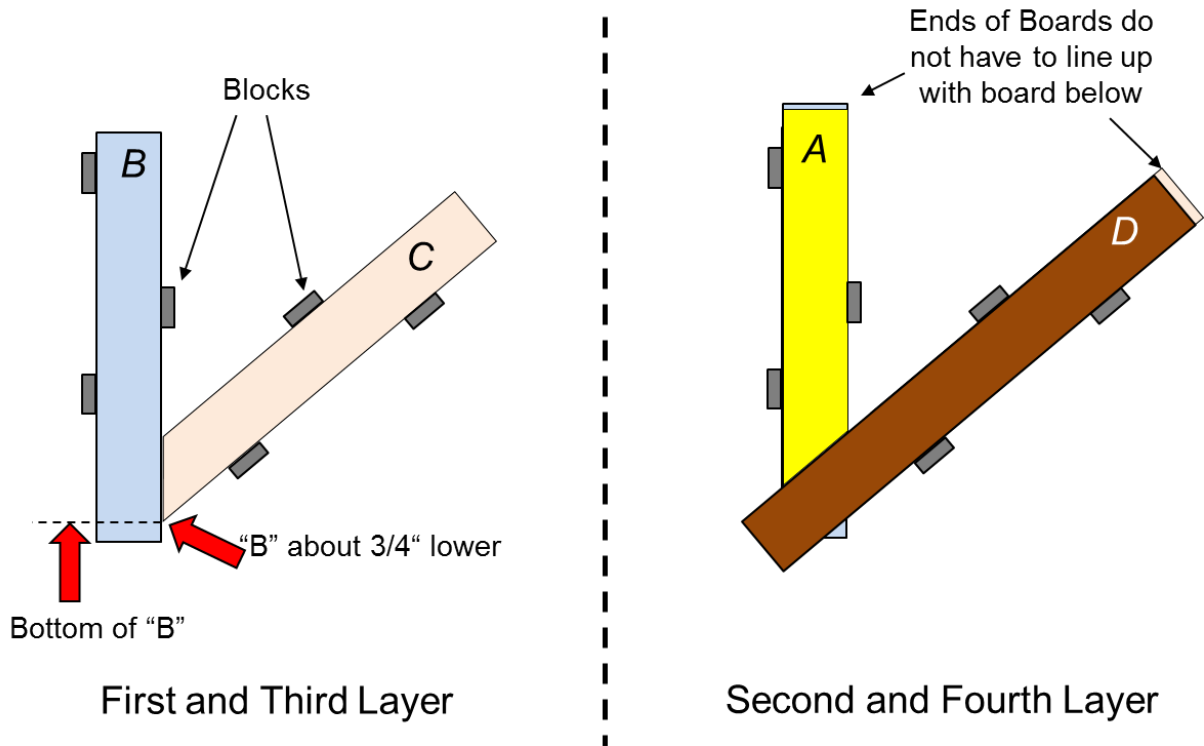

Figure 13: Vee Lamination Sequence
Step 1 on leg construction takes one of the “B” boards and aligns it with one of the “C” boards, as shown on the left side Figure 13. Note that the lower, square edge of “B” is about
For the second layer, place a board "D" over board "B" and "C", and board "A" butted up to board "D" and over board "B". The intersection should look as shown on the right side of Figure 13. Note that the free ends of "A" and "D" do NOT have to line up with "B" and "C" below them. These ends will be cut back when the final shaping is performed.
Make sure all boards are the same width (all 16 for both Vees) or they won't fit in the blocks properly. The 50° angles should be stacked cut together if possible, or touched up on disk sander with a miter gauge. Clean up any 'whiskers' on the angle cut so it will snug up tightly - more for cosmetic reasons. It's possible that the wood may not all be of the exact same thickness; small differences won't matter, but larger ones could put enough of a gap to cause a cosmetic issue where the boards overlay. If needed, pair the thicknesses up by layer and put the two most mis-matched boards on top where the difference can be smoothed out after glue-up. Mark the 3/4" spot on the "B" boards where the point of the "C" board will rest (Figure 13).